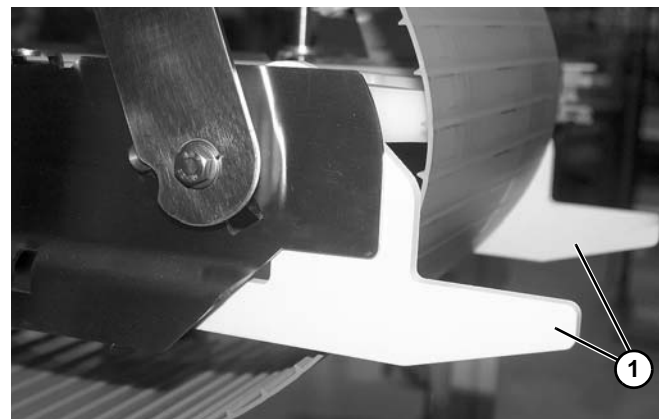

Figure 52
5. Remove two idler tail return guides (**Figure 52, item 1**).